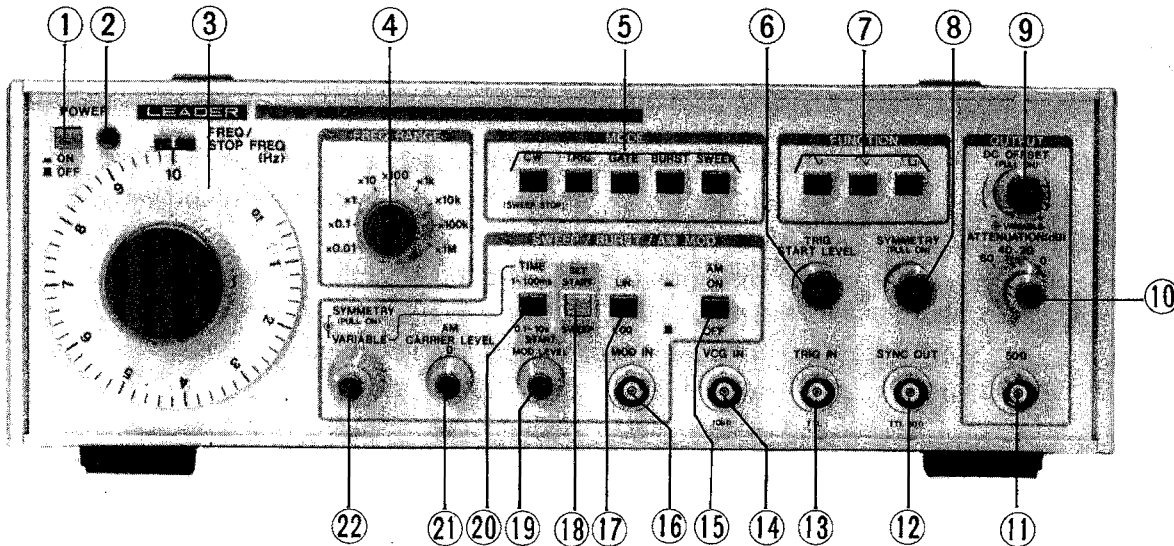

Fig. 4-1
4.1 Front Panel (See Fig. 4-1.)